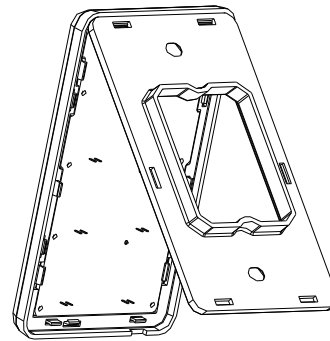

FIG. 5 ATTACHING THE FACEPLATE TO THE MOUNTING FRAME
6. Attach the faceplate to the mounting frame first at the top and swing it to the bottom. See FIG. 5
6. Attach the faceplate to the mounting frame first at the top and swing it to the bottom. See FIG. 5.